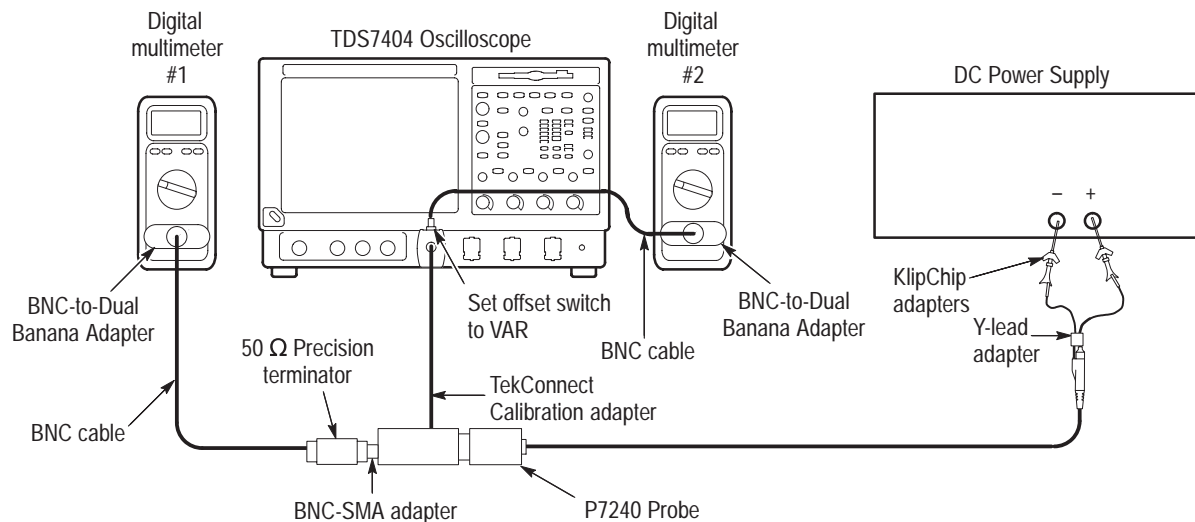

Figure 12: Setup for offset gain
- Connect the test equipment as shown in Figure 12.